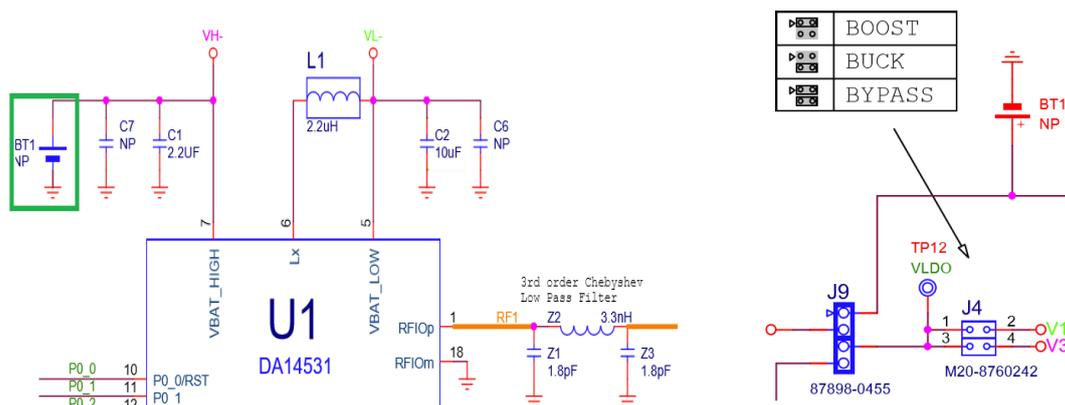

Figure 32: DA14531 PRO-DB Schematic (Left). DA14531 PRO-MB, Header J4 Settings (Right)
- On PRO-MB (see Figure 32, right)
- On PRO-MB (see Figure 32, right):